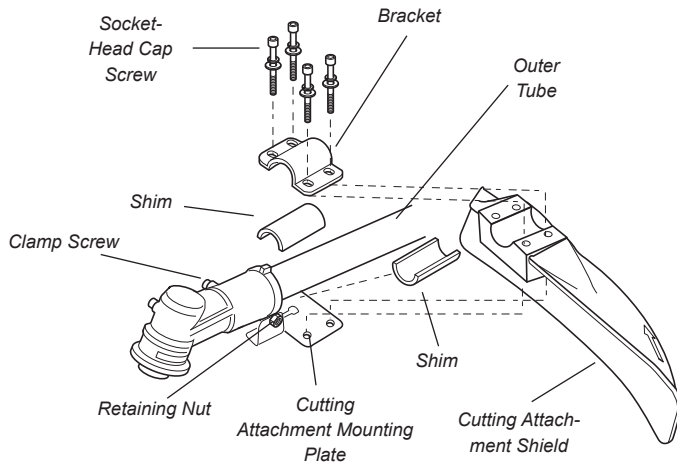

Figure 9
1. Insert the cutting attachment shield between the outer tube and the cutting attachment mounting plate. See Figure 9.
2. Fit the two shims and the bracket over the outer tube and loosely install the four socket-head screws. See Figure 9.